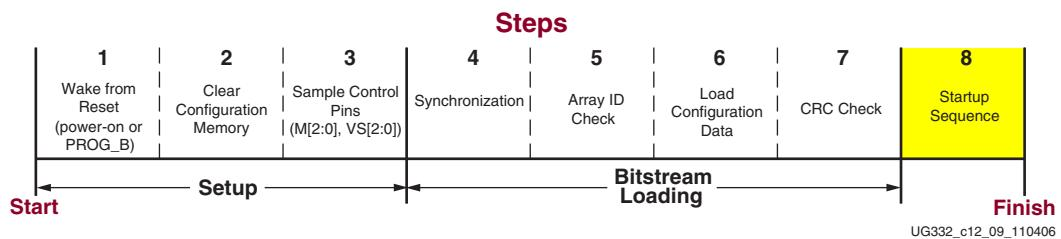

Figure 12-11: Startup Sequence
3. Hold the **DONE** pin Low, which prevents the FPGA from completing the Startup Sequence, shown as Step 8 in Figure 12-11, page 253. **DONE** should transition monotonically with a rise time less than one **CCLK** period. If there is a slow **DONE** transition, the device may not complete startup. If there is a non-monotonic or noisy **DONE** transition, the device may complete startup but not function correctly.